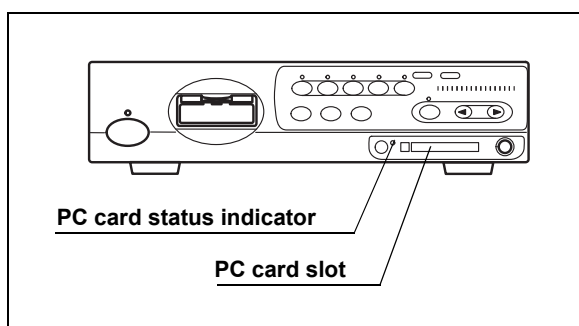

Figure 5.98
1. Insert the PC card into the PC card slot. The PC card status indicator lights up green (see Figure 5.98).